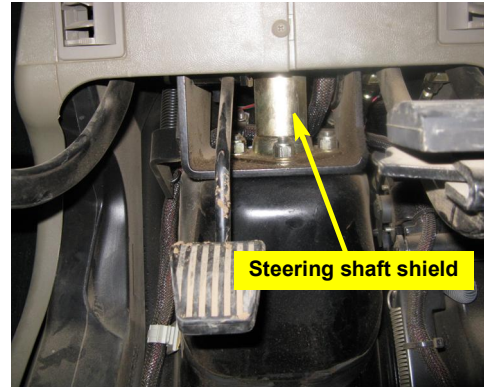

Figure 1a: Shielded steering shaft
- a. Locate the steering shaft under the steering console near the cab floor. The shaft is surrounded by a metal shield (Figure 1a).